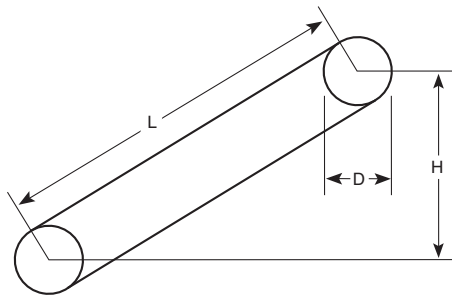

Figure 39
**Example:** A conveyor 42" wide is moving taconite which has an average weight of 130 lbs. per cubic foot at a rate of 1800 tons per hour. The conveyor is driven by a 30" diameter head shaft pulley at 51 rpm to give a conveyor speed of 400 feet per minute. The conveyor is inclined at an angle of 18° and has a total lift of 32 ft. It is desired to mount a holdback clutch on the 3/4" diameter head shaft. The conveyor is for intermittent duty. (Figure 39)